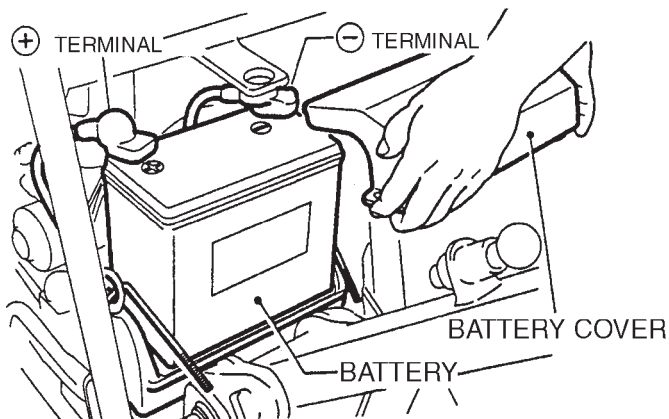

Figure 24. Battery Maintenance
1. Take off the battery cover by removing the M6 nuts (Figure 24).
2. When removing cable, disconnect the ground side (normally negative) first (Figure 24).